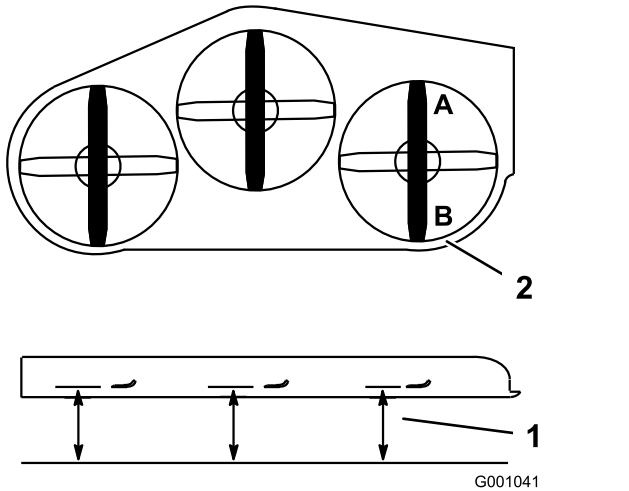

Figure 91
- Position 1 blade front-to-rear. Measure at **A** and **B** locations from a level surface to the cutting edge of the blade tips (Figure 91).